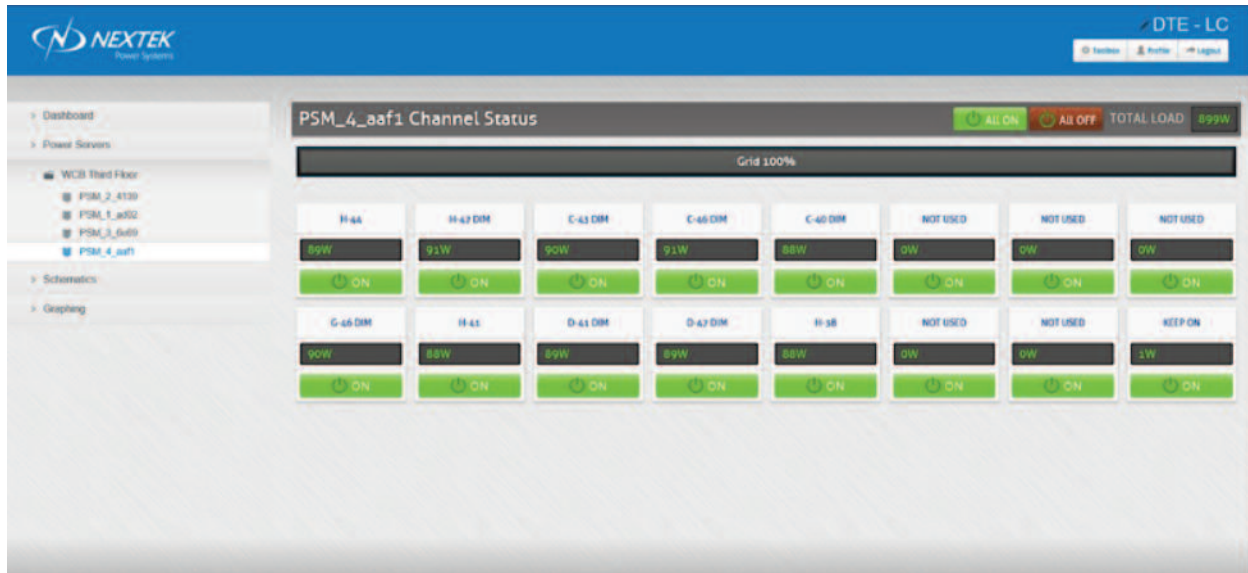

Figure 6
9.5.7 Click on PSM\_4\_aaf1 and the page should look like Figure 6.